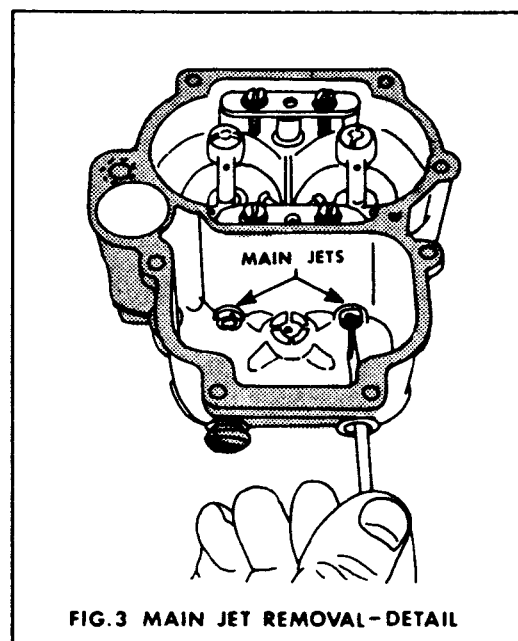

FIG. 3 MAIN JET REMOVAL—DETAIL
4. From outside float chamber remove two jet access plugs (AT) and gaskets (AS). Inside float chamber remove 2 main jets using a jet removal tool or a close fitting screwdriver (See Fig. 3). Also, unscrew and remove power valve (Fig. 1, AH) and gasket (AJ).